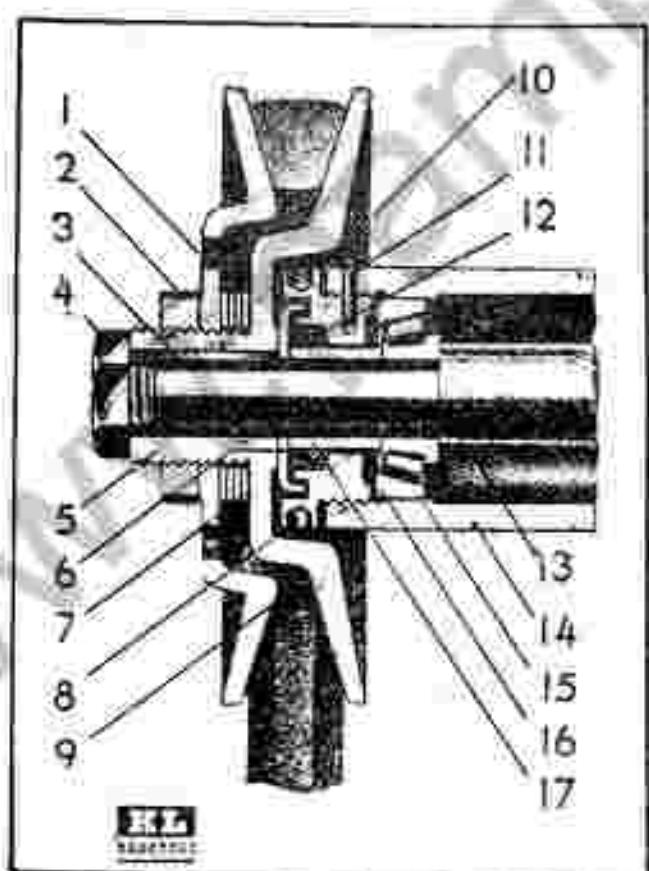

Fig. 14. Section of fan pulley.
FAN SHAFT BEARING ADJUSTMENT - The fan shaft is running on tapered roller bearings. Increased humming of the fan usually indicates that adjustment of the bearing is needed. It is adjusted by shims, Fig. 14(16) between bearing cup and ring nut (B) which is removed after removing nut (4), pulling off the complete pulley with belt, when key (3) will fall out, and removing lock pin (11).